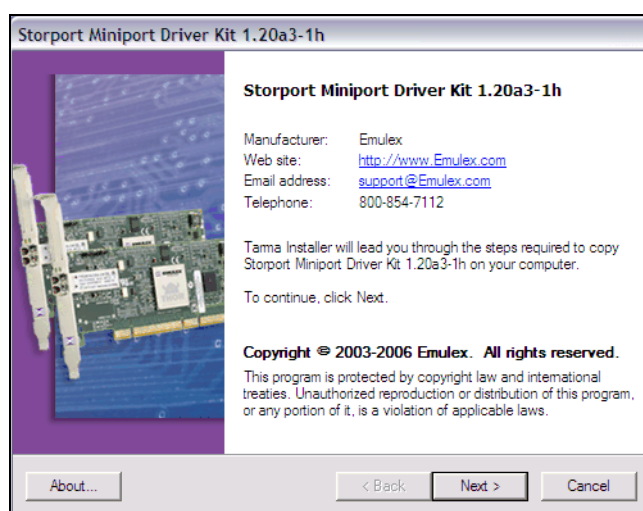

Figure 24-22 Extract Emulex Drivers
2. Start the downloaded file to extract the drivers (Figure 24-22). Click **Next**.